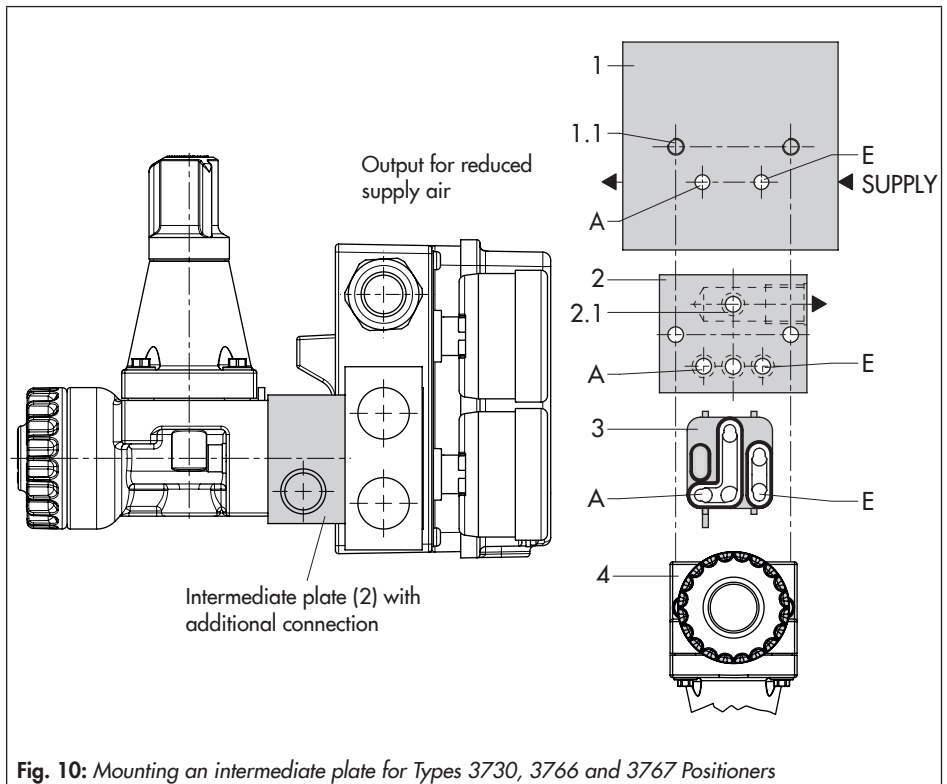
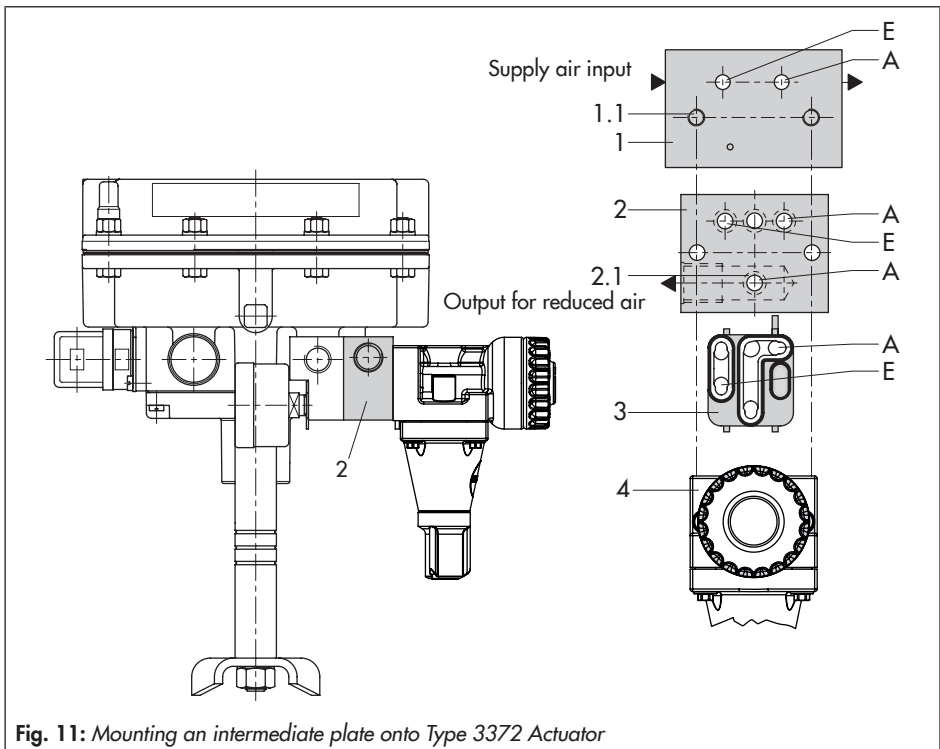

Fig. 10: Mounting an intermediate plate for Types 3730, 3766 and 3767 Positioners
Fig. 11: Mounting an intermediate plate onto Type 3372 Actuator
1. Remove the fastening screws and lift the supply pressure regulator (4) together with the diverting gasket (3) off the adapter plate (1). Make sure you do not change the position of the diverting gasket in the supply pressure regulator.
- ➔ The long rubber finger of the diverting gasket (3) must always point toward the regulator outlet (reduced supply pressure). See Fig. 10 and Fig. 11.
2. Insert the O-rings (2.1) into the boreholes of the intermediate plate (2).
4. Place the supply pressure regulator (4) with the diverting gasket (3) onto the intermediate plate (2). Insert the longer fastening screws and fasten the parts.